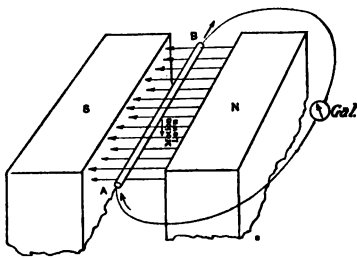
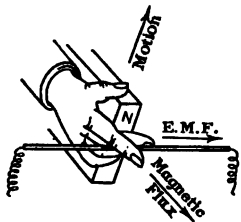

FIG. 271.—Induced e. m. f. in a wire cutting lines of force.
FIG. 272.—Right-hand rule for induced e. m. f.
**315. Wire cutting lines of magnetic force.** A simple way to get at the fundamental idea of the generator is to think, as Faraday did, of the induced e. m. f. produced in a *single wire when it is moved through a magnetic field*. Suppose the straight wire  $AB$  is pushed down across the magnetic field shown in figure 271. An induced e. m. f. is set up in  $AB$ , which makes  $B$  of higher potential than  $A$ , as can be shown by connecting  $B$  and  $A$  with a galvanometer. As long as the wire remains stationary no current flows. Even if the wire does move, if it moves in a direction parallel to the lines of force, no current flows. In short, a wire, to have an e. m. f. induced in it, must *move so as to cut lines of force*.
**316. Direction of induced e. m. f.** We have just seen that when the wire  $AB$  in figure 271 is moved down, the induced current in it is from  $A$  to  $B$ . If the wire were moved up, the induced current would be from  $B$  to  $A$ . Furthermore, if the field is reversed without changing the direction of motion of the wire, the current reverses. It will be seen, then, that the direction of the induced e. m. f. depends upon two factors, (a) the direction of the motion of the wire and (b) the direction of the flux or magnetic lines of force. The relation of these three directions may be kept in mind by Fleming's rule of three fingers, as shown in figure 272.
these three directions may be kept in mind by Fleming's rule of three fingers, as shown in figure 272.